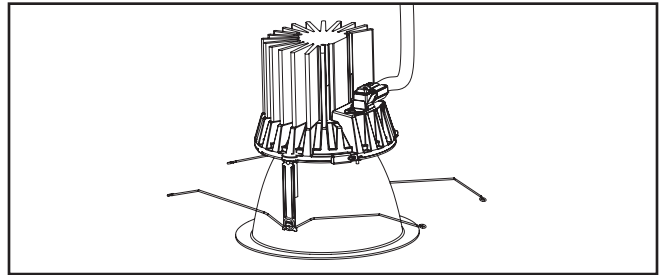

Figure 36
9. Ensure the connector is properly engaged. (Figure 36).